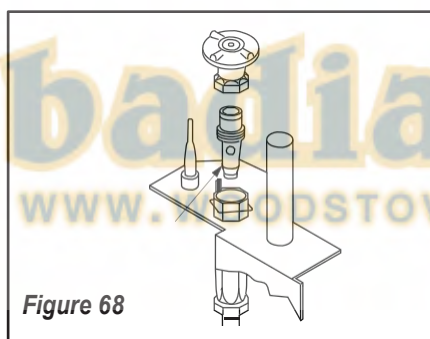

Figure 68
Step 6. Refer to **Figure 68** and remove the pilot hood assembly to access the hexed pilot orifice. Remove and replace the orifice with the one provided with the kit.